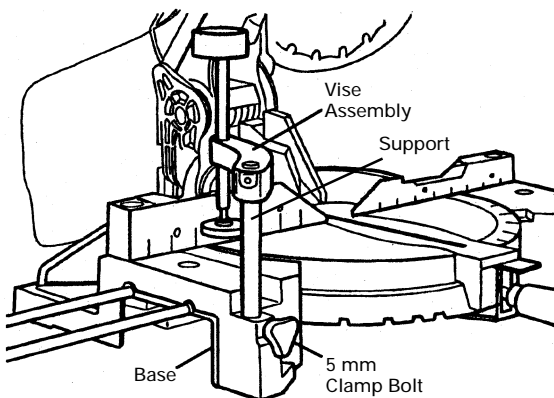
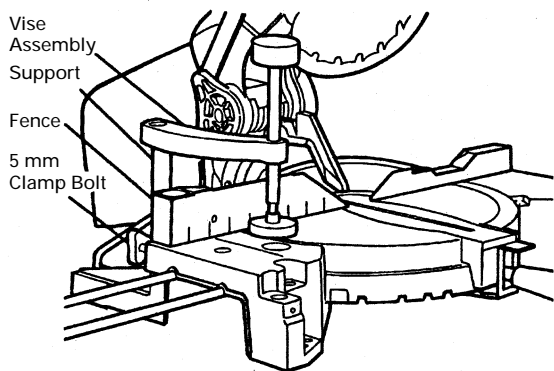

Fig. 18
Fig. 19
(1) The vise assembly can be mounted on either the left side base or the right side base, and can be raised or lowered according to the height of the workpiece.
① Insert support of vise assembly into the hole located on either the left side base or the right side base.
② Then tighten 5 mm clamp bolt as shown in Fig. 18.
(2) The vise assembly can be mounted on either the left side fence or the right side fence, and can be raised or lowered according to the height of the workpiece.
① Insert support of vise assembly into the hole located on either the left side fence or the right side fence.
② Then tighten 5 mm clamp bolt as shown in Fig. 19.